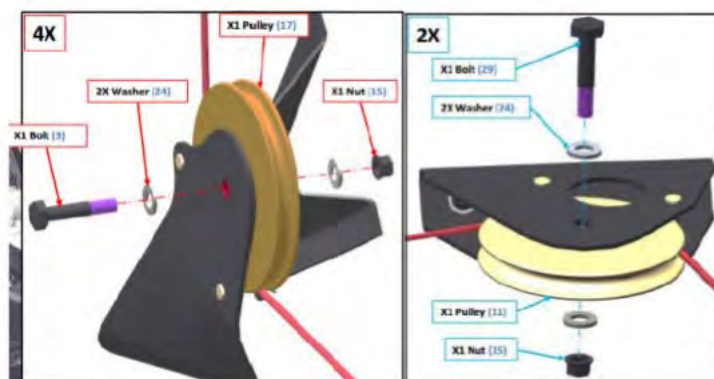

FIGURE 10-25
3. If the roll pulleys were removed, reinstall the bolts and torque to 48 in-lb. If the safety pins were removed, re-install with a new MS25665-151 cotter pins. (Figure 10-25)